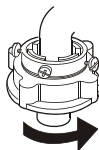

Figure 5
4. Take off the nameplate. Twist the fastening nut as per the indication of the figure. See to Figure 5.